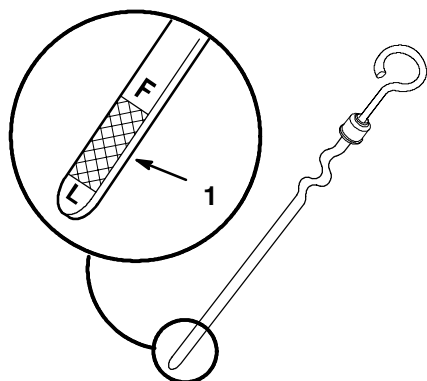

Figure 6
4. Pull out the oil dipstick and wipe the metal end clean (Fig. 6).
6. Pull the dipstick out and look at the metal end (Fig. 6). If the oil level is low (near the L mark), add oil; refer to Engine Oil, page 22.